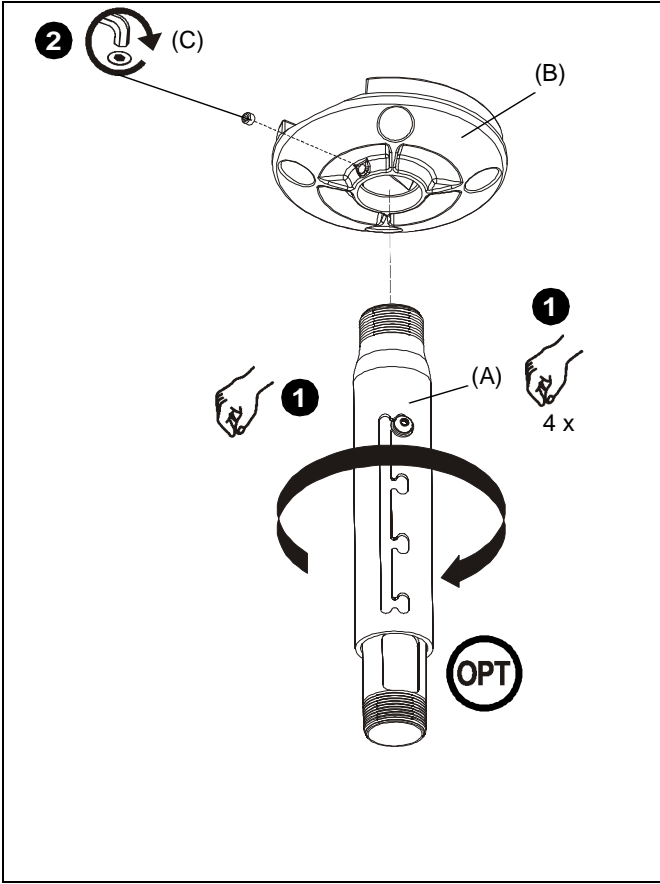

Figure 4
1. Install adjustable column (A) into plate. (See Figure 4)
2. Secure column (A) by installing set screw (C) into plate using 5/32" hex key (E). (See Figure 4)